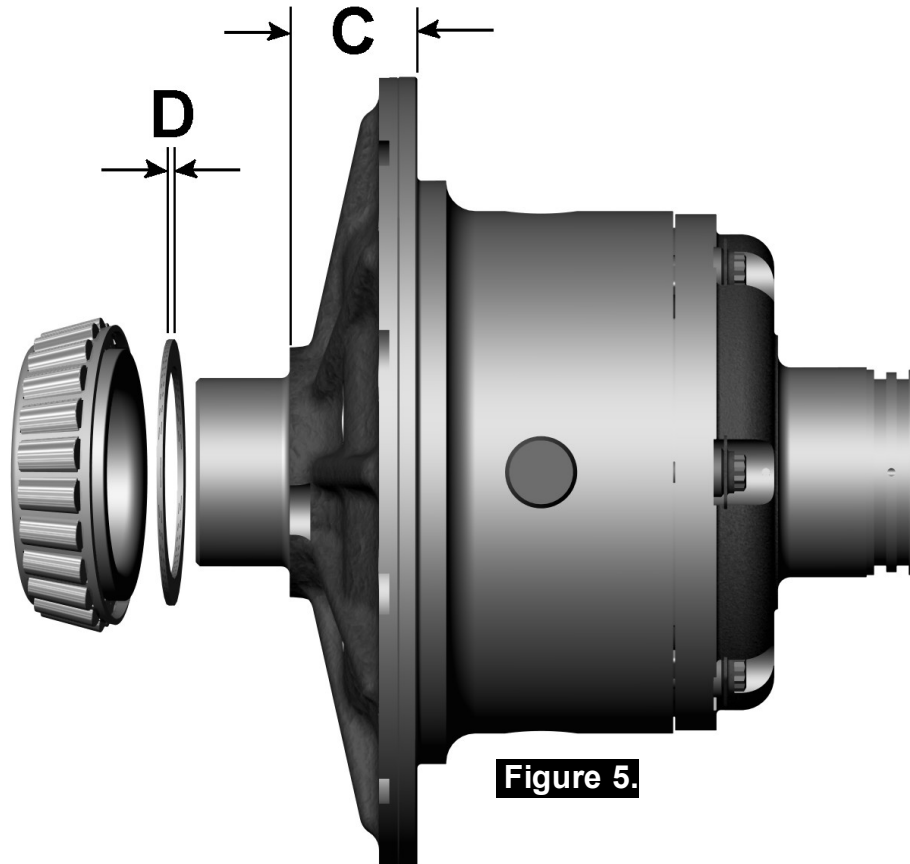

Figure 5.
- Measure the distance from the *Air Locker* bearing shoulder to the ring gear mounting face (shown as 'C' in Figure 5.) and record this measurement as 'C'.
The thickness of the shim pack required for the *Air Locker* (shown as 'D' in Figure 5.) can now be determined by substituting the measurements taken into the following equation.